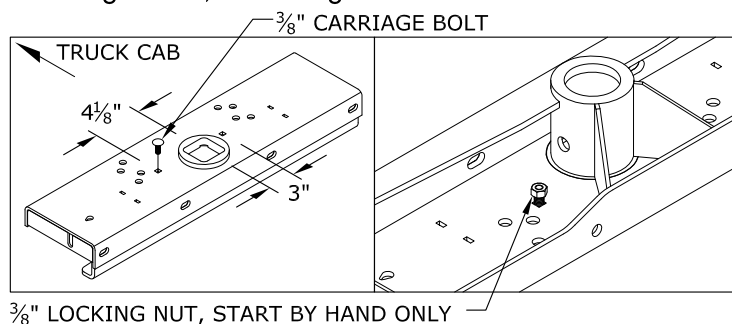

FIGURE B5: Center Section before installation.
- 2A. **Insert carriage bolt.** Install  $\frac{3}{8}$  x 1" long carriage bolt into center section and attach with finish nut as shown in figure B5, Do not tighten nut.